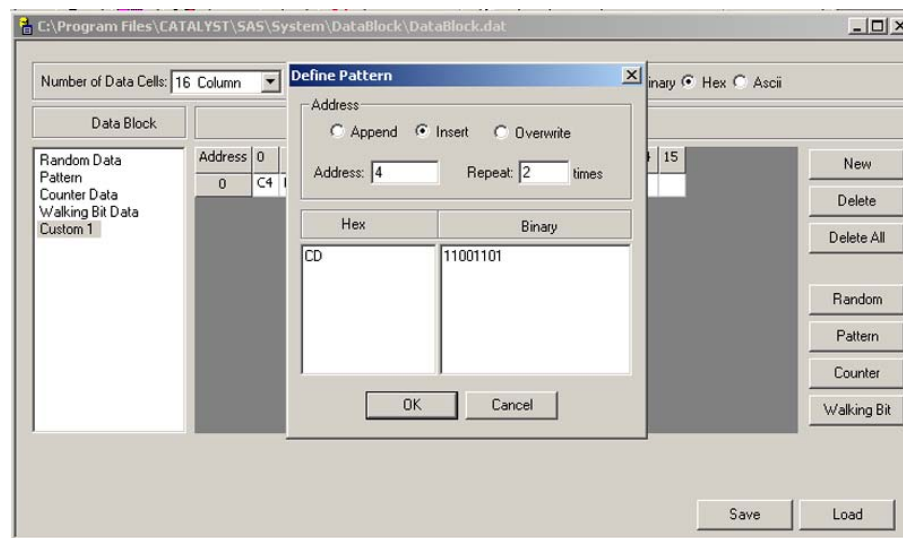

Figure 155. Define Your Own Data Pattern
1. Click **Pattern** to open the Define Pattern dialog box as shown in Figure 155.